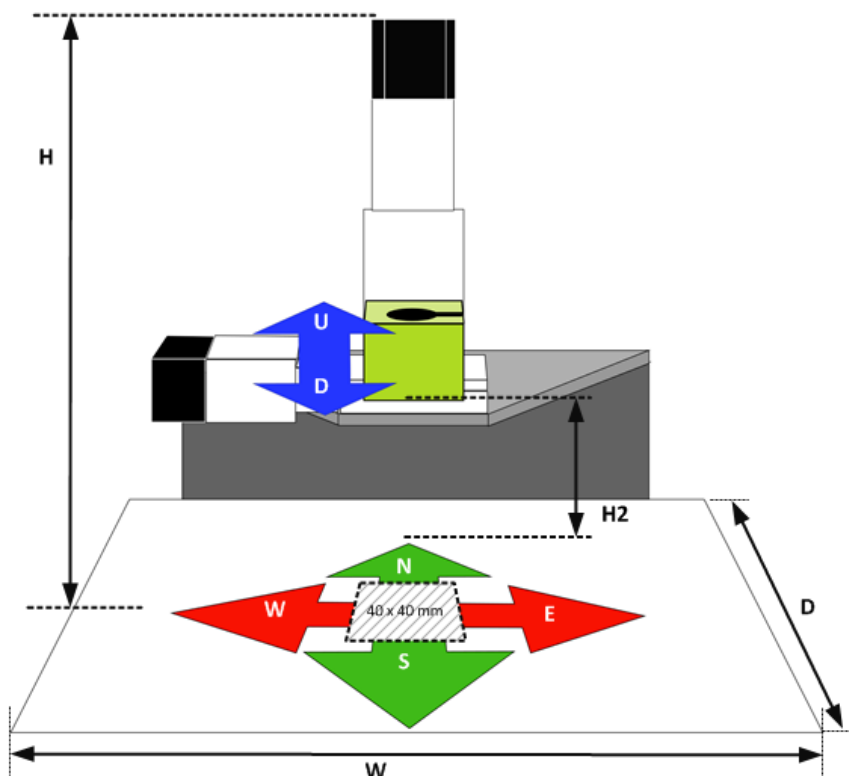

Figure 11 Main dimensions and control directions of the XYZ stage.
6. Press and hold the on-screen buttons N (North), E (East), S (South), W (West), U (Up) or D (Down). See Figure 11. This activates the different motors.